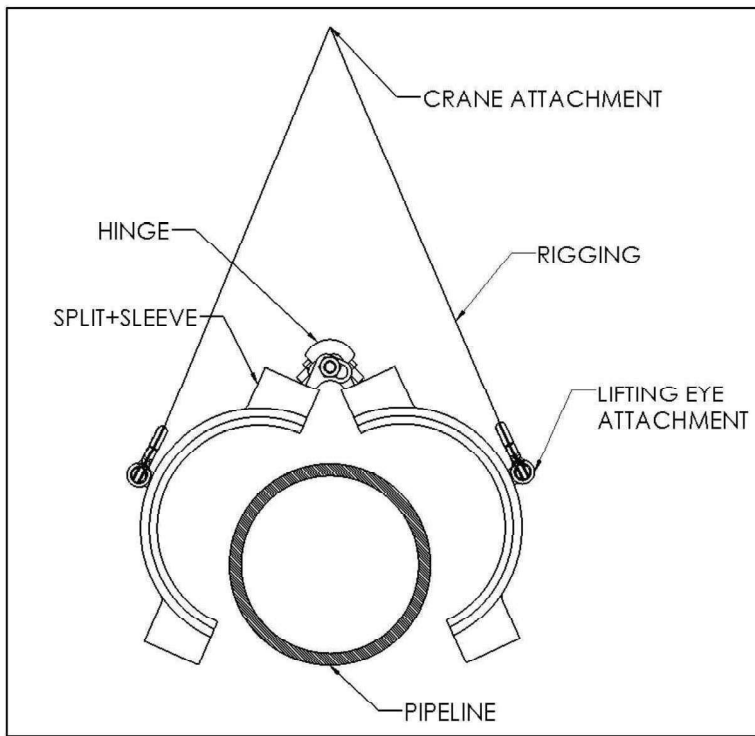

Figure 12
3. Attach properly sized rigging such as chains, cables, or straps to a single point crane attachment. The rigging should be sufficiently long enough that the rigging doesn't interfere with opening and closing of the fitting as shown in Figure 12.
4. Lift the fitting up from the single point crane attachment. The Split+Sleeve will open as shown in Figure 12.
5. Position the fitting over the pipeline and slowly lower the fitting onto the pipeline as shown in Figure 12. The inside of the fitting will come in contact with the pipeline, and the fitting will start to close as it is lowered. Some fittings may require some additional side force to close the fitting around the pipe. Always keep all body parts clear of the inside of the fitting as the fitting is being lowered onto the pipe. This is to ensure safety in the event the fitting slams shut rapidly.